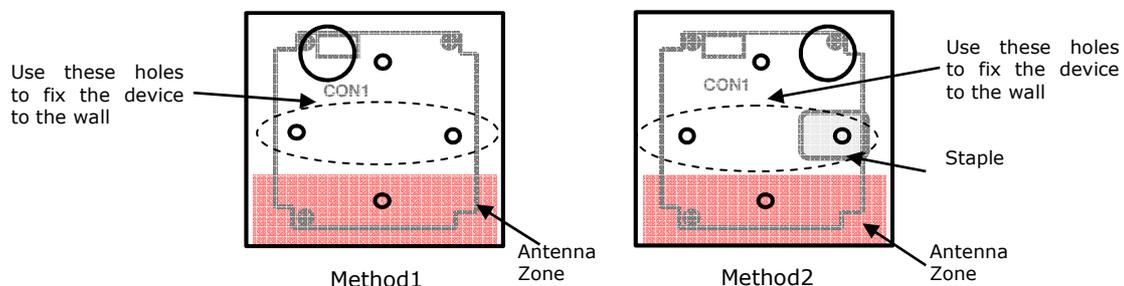
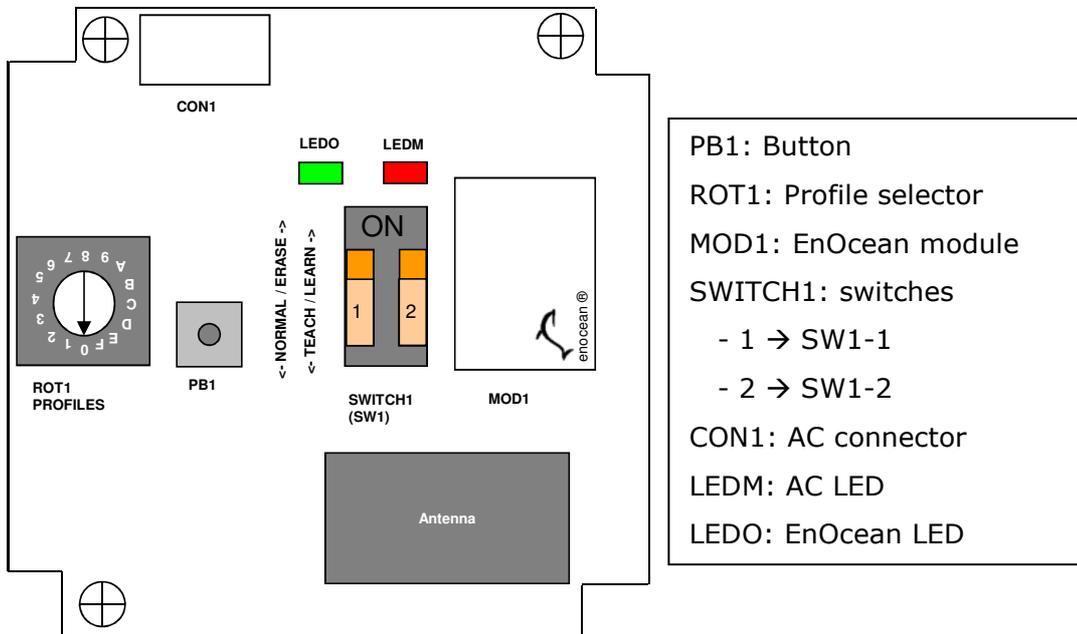

Figure 2.2 Connection methods
Figure 3.1 Device diagram
To connect the device to the AC, the recommended methods are the ones in Figure 2.2
- Method1: The lead hole is place above CON1 (Figure 2.2 or Figure 3.1)
Important: The cable should not be placed on top or the antenna zone (area marked in Figure 2.2) as the performance of the device might be affected. For this same reason never use a metallic screw in the subjection hole on top of this antenna zone.
The STC-MITSUBISHI A/C (Figure 3.1) has two switches, a button and a profile selector to execute the Learning and Teach-in procedures from the EnOcean technology (explained in Table 3.1 and the following sections)
To **execute** the **Learning** procedure the next steps need to be followed. References to device components refer to Figure 3.1:
Table 3.4 Signals linked to ROT1 (Figure 3.1)
To delete one or all the devices linked in one reception profile (Table 3.2) the device needs to be in ERASING mode. To do so follow the following lines (the references to device components are specified in Figure 3.1):
A device can break down or be lost, and therefore the above mentioned delete procedure would not be possible to be executed. For that reason all the devices in one profile can be deleted. To do so follow the instructions (the references to device components are specified in Figure 3.1):